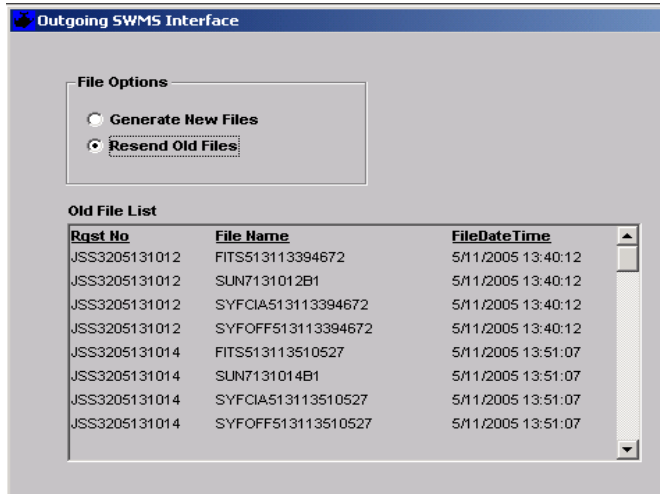

Figure 4.22
- 4.6.2 On the *Outgoing SWMS Interface* window (Figure 4.22), with *Resend Old Files* selected, existing files display. The *Resend Old Files* option is only available if the `swms_auto_prc` flag is not set. In this case, *Batch File Transfer* can be used to manually resend the files.